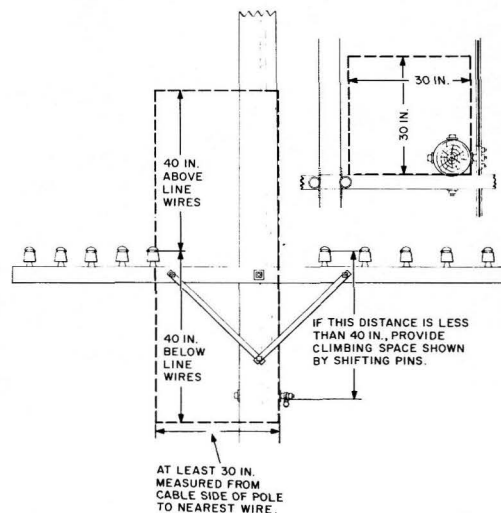

Fig. 6—Respacing Pins for Climbing Space
3.07 The full width of climbing space shall be provided past longitudinal runs of cables, drop wires, etc., and shall be measured from the longitudinal run concerned. Where telephone cable is less than 40 inches from telephone wires on jointly used poles, respace pins to provide the 30-inch climbing space (Fig. 6).